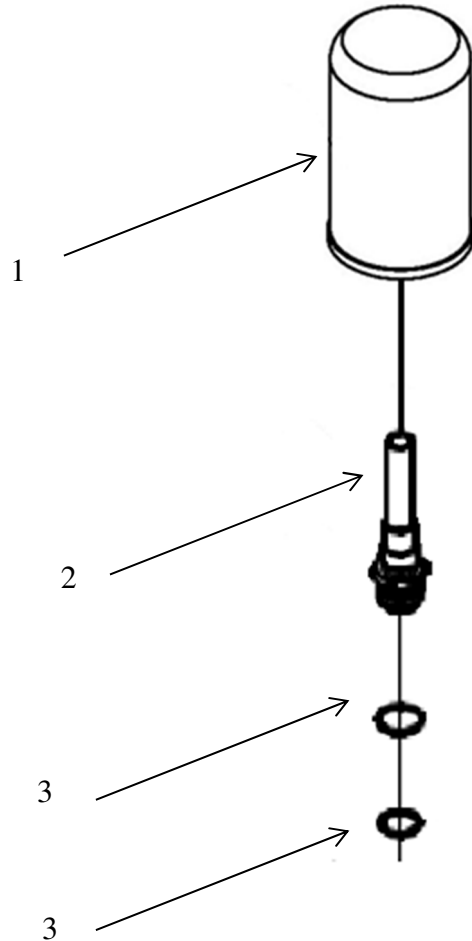

Fig. 3-2 SCI8DT05 Integrated Compressor– Oil separator cartridge
PROCEDURE: 1. Replace oil separator cartridge (refer to figure 3-2) a. Unscrew and remove oil separator cartridge (1) using the band wrench. b. Unscrew and remove the separator oil recovery pipe (2) and the gaskets (3). c. Mount the gaskets (3) and the separator oil recovery pipe (2). d. Screw the new oil separator cartridge (1) by hand.